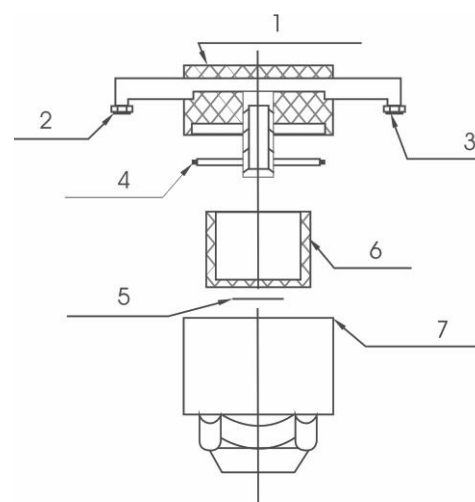

Figure 13
2. Regularly cleanse the water filter. Process refers to the wearable component change chapter.(see the **Figure 13**)
To ensure the proper use of the treatment machine, a water filter is set in the water entry in the ground box to filter the impurity of the water (as shown in figure 13) . After a long time use, the impurity may block the filter core and influence the current and pressure. To cleanse it or change the core is a must.